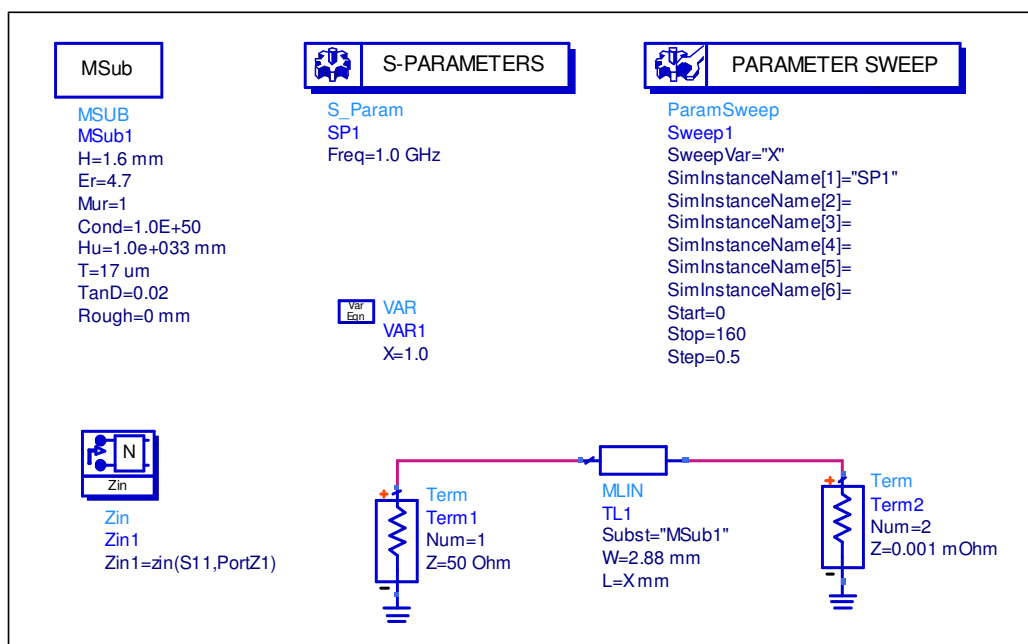

Figure 10 - 50 ohm transmission line terminated by a short.
3. Draw a  $50\Omega$  transmission line terminated by a short, as shown in Figure 10.